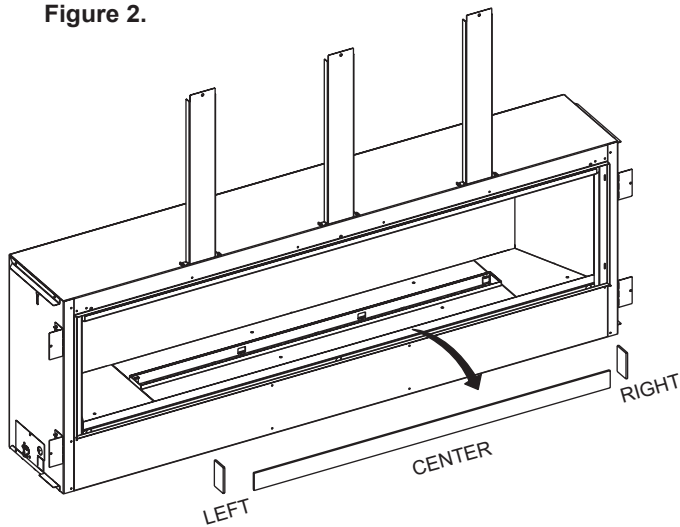

Figure 2
2. Remove glass panels around burner. Set aside. **See Figure 2.**
8. Reinstall glass panels removed in Step 2. See Figures 2.